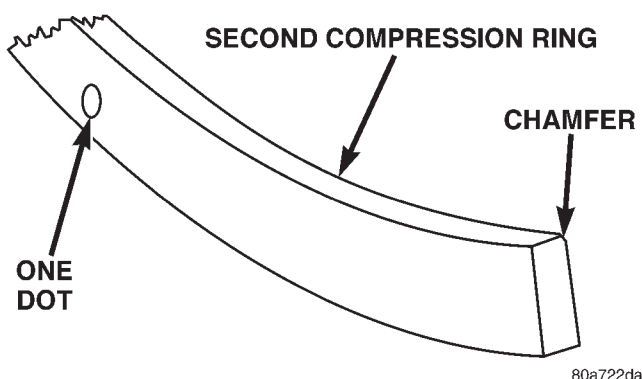
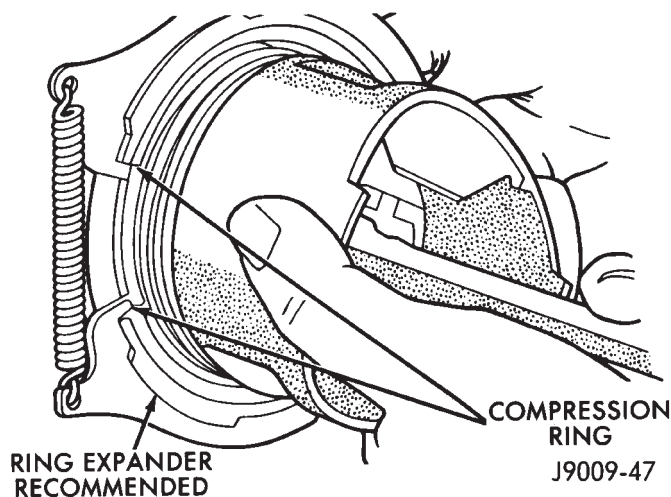

Fig. 11 Second Compression Ring Identification
Fig. 13 Compression Ring Installation
(7) The second compression ring has a slight chamfer on the bottom of the inside edge and a dot on the top for correct installation (Fig. 11).
(8) Using a ring installer, install the second compression ring with the dot facing up (Fig. 11) (Fig. 13).
(9) Using a ring installer, install the top compression ring (either side up).